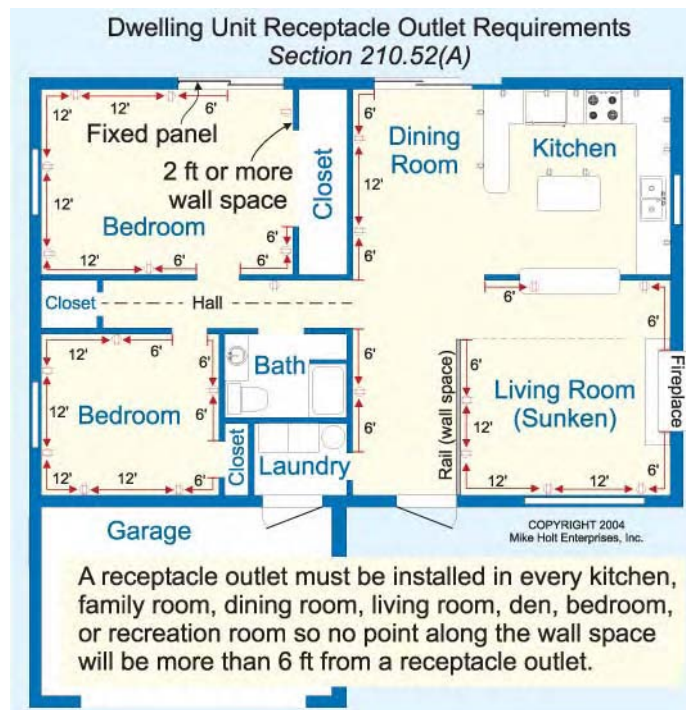

Figure 210–49
(A) General Requirements—Dwelling Unit. A receptacle outlet must be installed in every kitchen, family room, dining room, living room, parlor, library, den, bedroom, recreation room, and similar room or area in accordance with (1), (2), or (3): **Figure 210–49**
(3) Floor Receptacle Outlets. Floor receptacle outlets cannot be counted as the required receptacle wall outlet if located more than 18 in. from the wall. **Figure 210–50**